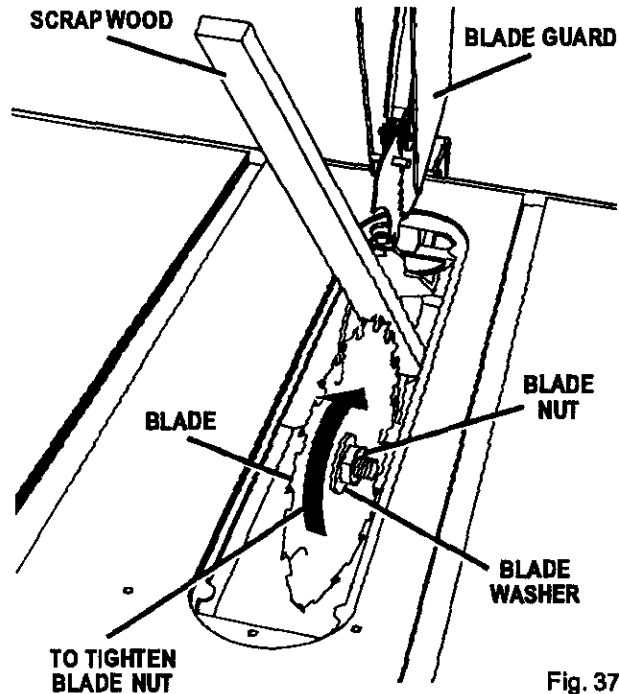

Fig. 37
- To install a standard blade, place the new blade on the arbor shaft, with teeth pointing down toward the front of the saw. Wedge a piece of scrap wood at the back of the blade. See Figure 37.